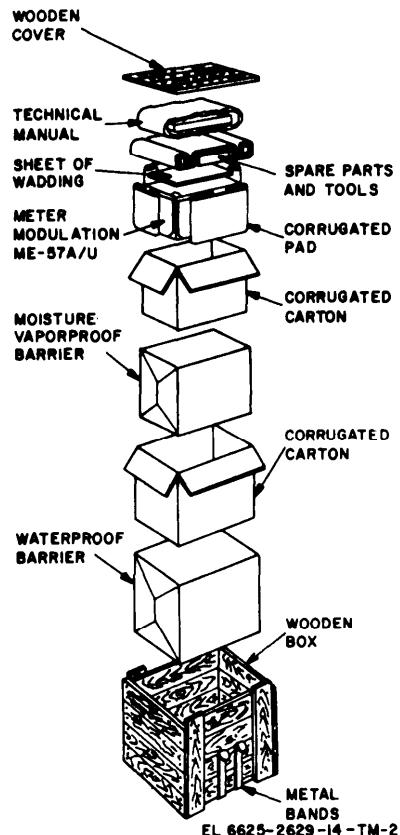

Figure 2-1. Typical packaging.
a. *Packaging Data*. When packed for shipment, the modulation meter is placed in a waterproof carton and packed in a wooden packing case. A typical packing case and its contents are shown in figure 2-1.
b. *Removing Contents (Wooden Packing Case)*. Perform all of the procedures in (1) through (5) below when unpacking an equipment in a wooden packing case.
- (1) Cut and fold back the metal straps.